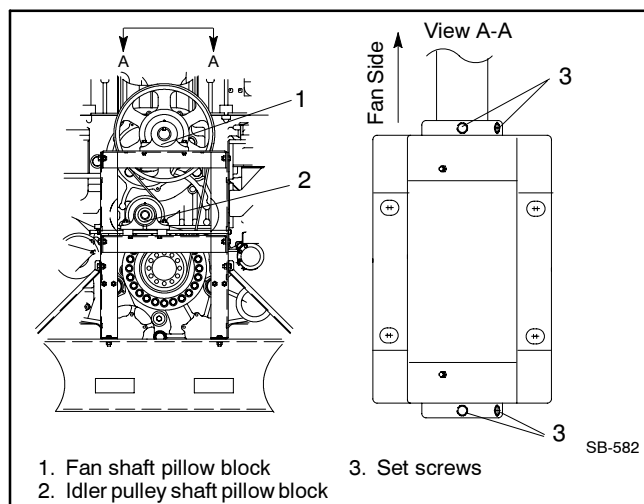

Figure 2 Fan Shaft Set Screws
Adjust the front-to-back pulley alignment by loosening the fan shaft set screws. See Figure 2.
2.4 Verify that the fan shaft set screws are torqued to 33 Nm (24 ft. lb.). See Figure 2.